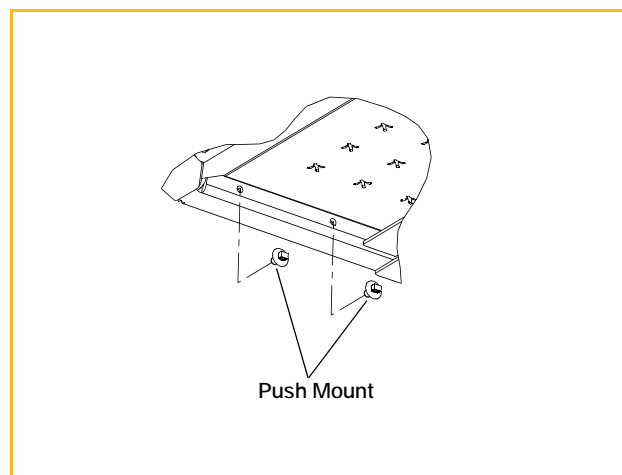

FIG. 3
8. Insert the push mounts into the side of the left frame rail. Insert wire ties into the push mounts for securing the light harness in the next step. FIG. 3